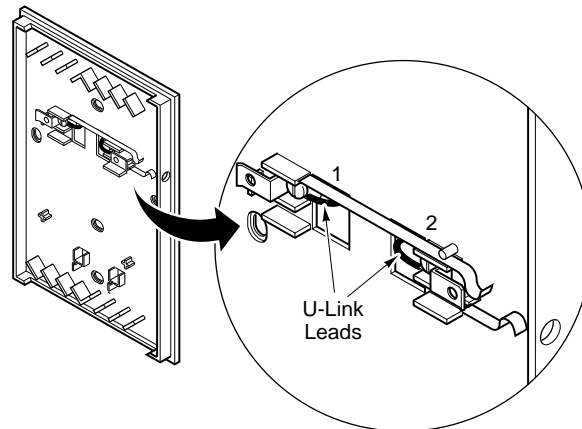

Figure-7 U-Link Connection.
2. Connect the wires to screw terminals 1 and 2. No polarity maintenance is required ((Figure-7)).